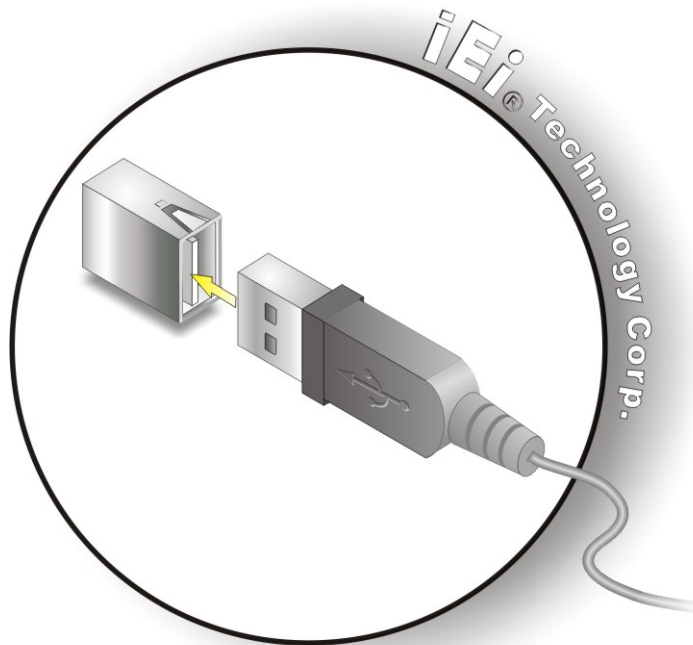

Figure 4-13: USB Device Connection
Step 2: Align the connectors. Align the USB device connector with the connector on the WSB-PV-D4251/D5251. See Figure 4-13.